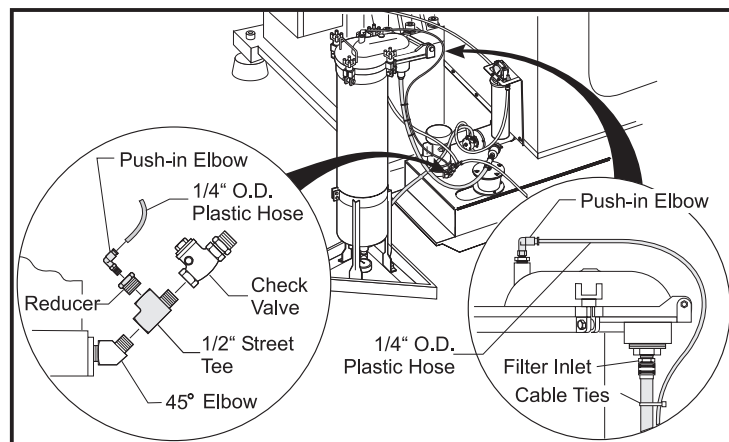

Figure 3.0 Auxiliary Filter Priming System
5. Disconnect the 1/2" check valve from the 45° elbow at the base of the normal coolant pump. Install the 1/2" street-tee from the kit between the 45° elbow and the check valve. Install the pipe reducer from the kit into the side outlet of the street-tee. Install the 1/4" push-in elbow into the pipe reducer. (See figure 3.0).
6. Insert the 1/4" OD plastic hose into the push-in elbow on the pump. Route the hose along the intake filter hose and around the hinge of the auxiliary filter. Trim the plastic hose to length and insert it into the push-in elbow at the top of the filter. Secure the plastic hose to the inlet hose with the supplied cable ties. (See figure 3.0).